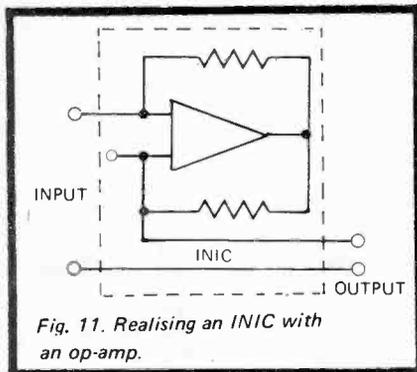

Fig. 11. Realising an INIC with an op-amp.
3. The negative-emittance or negative impedance converter NIC. This is a most interesting system block for it enables positive value capacitance or resistance (that obtained with normal capacitors and resistors) connected at its input to appear as negative value capacitance or resistance at its output. It enables circuit designers to physically build circuits requiring non-physical negative capacitors and resistors. (INIC indicates an ideal current-inversion NIC, and VNIC indicates an ideal voltage — inversion NIC). A typical realisation is shown in Fig. 11.